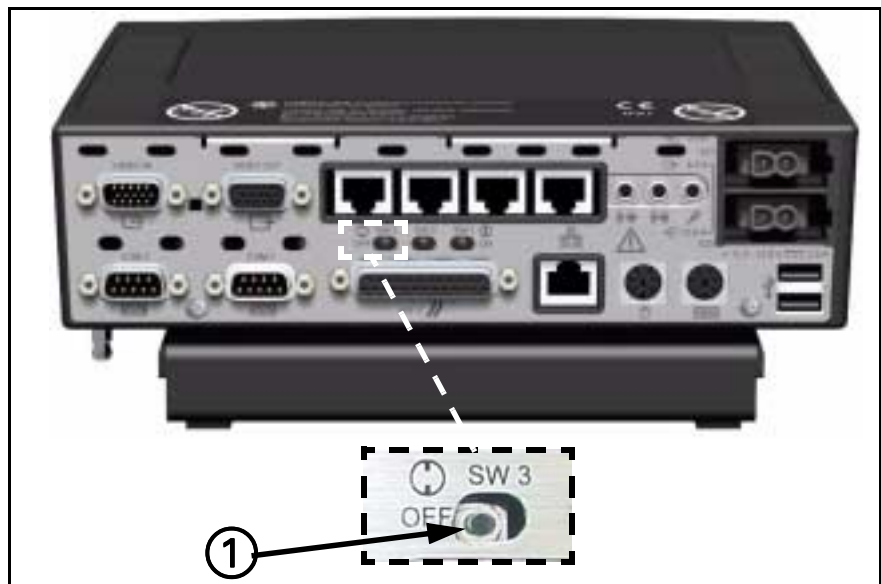

Figure 16-1 MDS (rear view)
1. Verify BIOS switch (① in insert in Figure 16-1 on page 85) on rear of MDS is set to right.